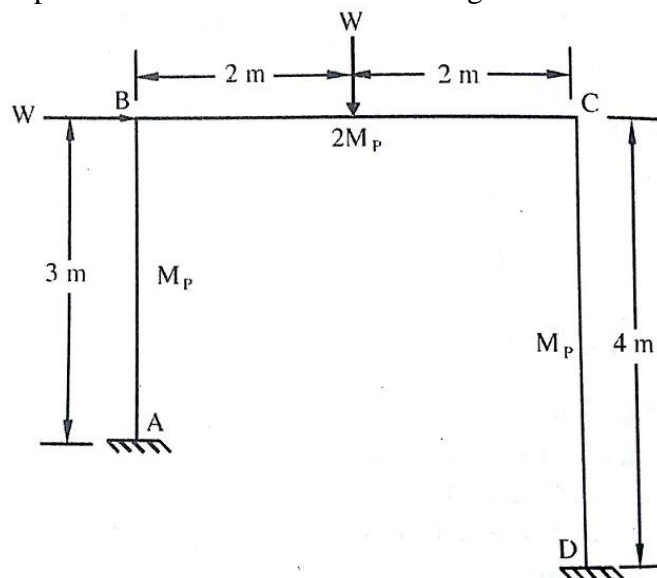

Figure 5.3
10. Determine the collapse load for the frame shown in figure 5.3.